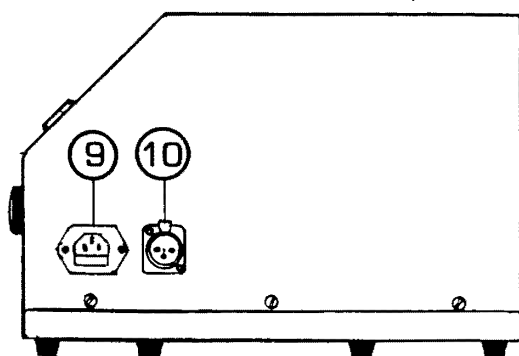

Figure 4
- 9 - **POWER CORD RECEPTACLE** - Receives detachable power cord. [Fig. 4]
- 10 - **REMOTE TRIGGER RECEPTACLE** - Receives foot switch or other remote triggering device. [Fig. 4]
8. Connect power cord to RECEPTACLE (9) (Fig.4, Page 5).
2. Connect power cord to RECEPTACLE (9) (Fig.4, Page 5).